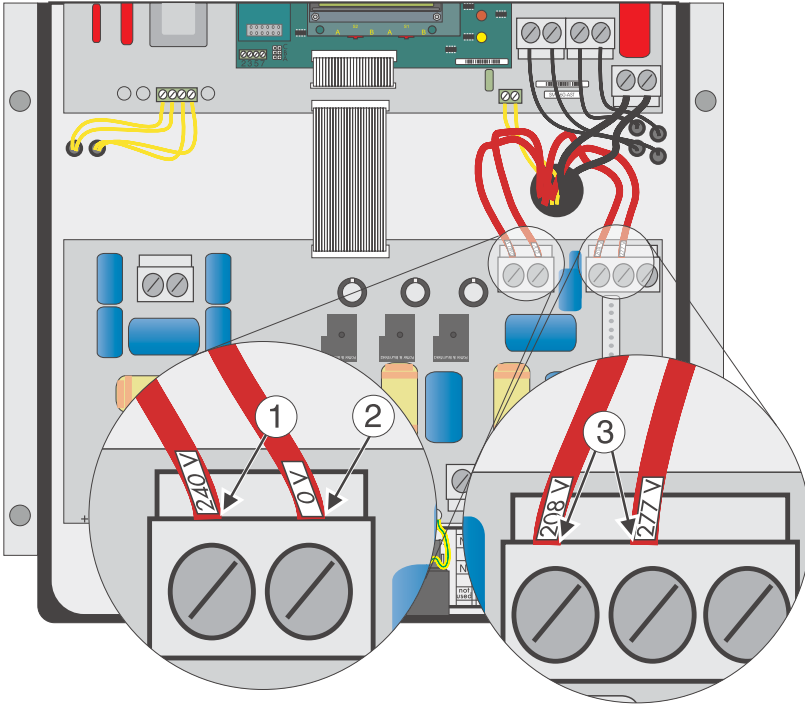

Figure 4-2 Input Voltage Wiring Terminals
The SB6000U comes from the factory pre-configured for utility interconnection at 240V AC. The SB6000U may be reconfigured for other voltages by following the steps below and referring to Figure 4-2.
There are four wires coming into the main cabinet through a grommet. Each wire is labeled with its corresponding voltage and is connected to one of the two large terminal blocks located just below the grommet. Refer to Figure 4-2 and follow the instructions below:
1. The input voltage setting is determined by the jumper that is connected to the left terminal block. See Figure 4-2 (1). The SB6000U comes from the factory configured for connection to a 240V system. If the system is 240V, no adjustment is necessary.
2. If adjustment is necessary, choose the wire with the correct voltage for your application from the right terminal block (3) and connect it to the left side of the left terminal block.
3. **Do not** remove the wire in the left terminal block labeled 0V (2). It remains connected to the right side of the left terminal block in all configurations.
4. All unused wires connect to the right terminal block (3).